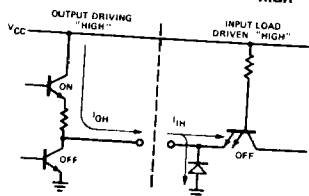

Figure 2
- V_{IH}** Minimum logic HIGH input voltage. Refer to figure 2.
- V_{IL}** Maximum logic LOW input voltage. Refer to figure 2.